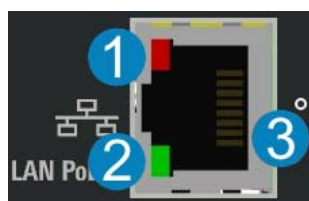

Figure 4-2: LAN [PoE+] interface
See (1) in Figure 4-2.
See (2) in Figure 4-2.
See (3) in Figure 4-2.